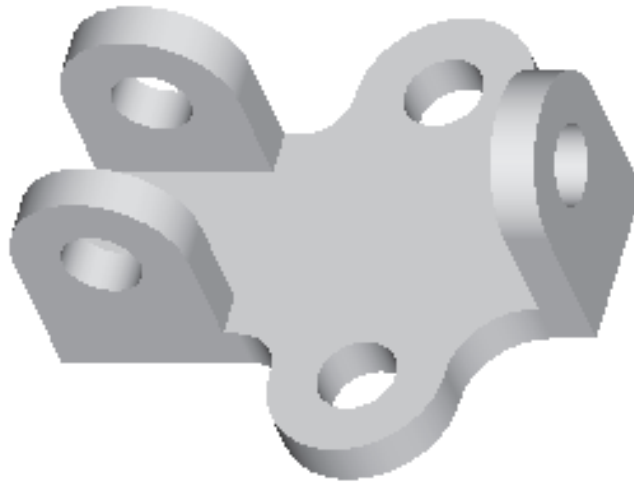

Figure 6-29 Default trimetric view of the model
2. Select the third feature from the graphics screen and choose **Done** from the **SELECT FEAT** submenu. You are prompted to select a plane or create a datum to mirror about. Select the **FRONT** datum plane as the mirror plane. The third feature is mirrored about the **FRONT** datum plane. The trimetric view of the final model is shown in Figure 6-29.